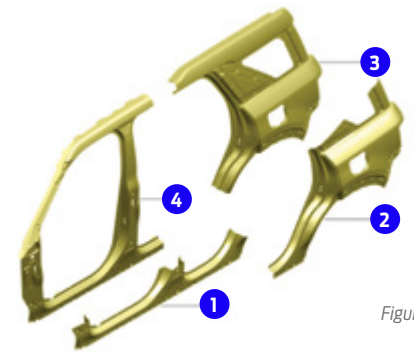

Figure 2
Body-Side Outer Panels (Figure 2)
4. On both sides, apply metal bonding adhesive (TA-1, TA-1-B, 3M™ 08115, Lord Fusor® 108B) and then install, properly position and clamp the outer wheelhouse. Use the 6.5 mm drill bit to make guide holes in the outer wheelhouse for the blind rivets. (Figure 2)